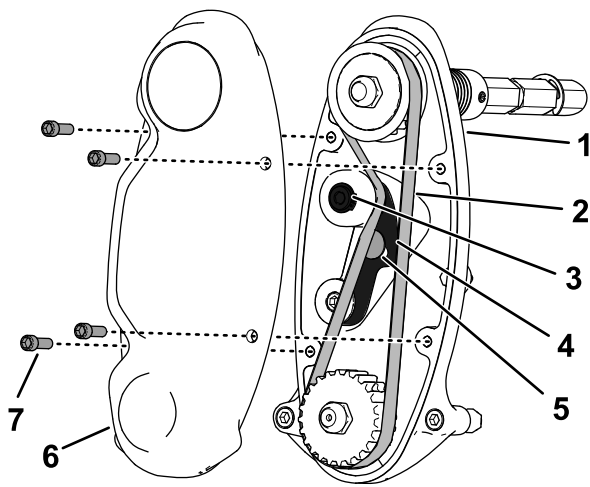

Figure 17
1. Remove the belt cover to expose the belt (Figure 17).
- Loosen the idler-arm bolt and rotate the idler arm (Figure 17) to release tension on the belt.
- Remove the belt (Figure 17).
- Install the belt and tension the belt by applying 4 to 5 N·m (35 to 40 in-lb) to the idler-arm internal hex shown in Figure 17.